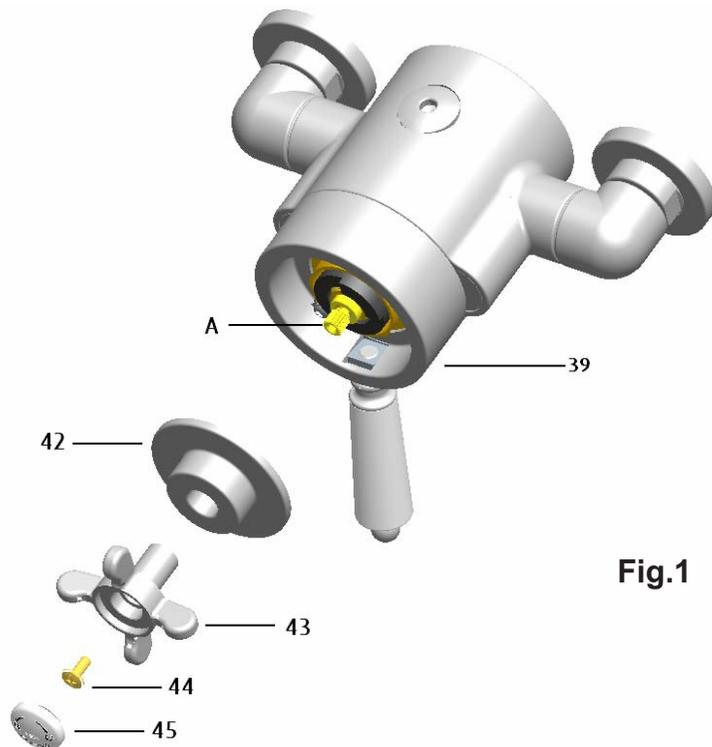

Fig.1
5. Setting (See Fig. 1)
- 5.4 See Fig. 1 below, remove the temperature control handle and shroud (43 & 42) by removing the indice (45), remove the screw (44) and pulling the handle and shroud (43 & 42) off the spindle (A).
It is important to note that the flow control handle (39, Fig.1) turns through approximately 170 degrees to achieve full and maximum flow anti-clockwise on, clockwise off.
The small cross handle (43, Fig.1) controls the temperature. This control stays stationary when the flow control handle is turned.